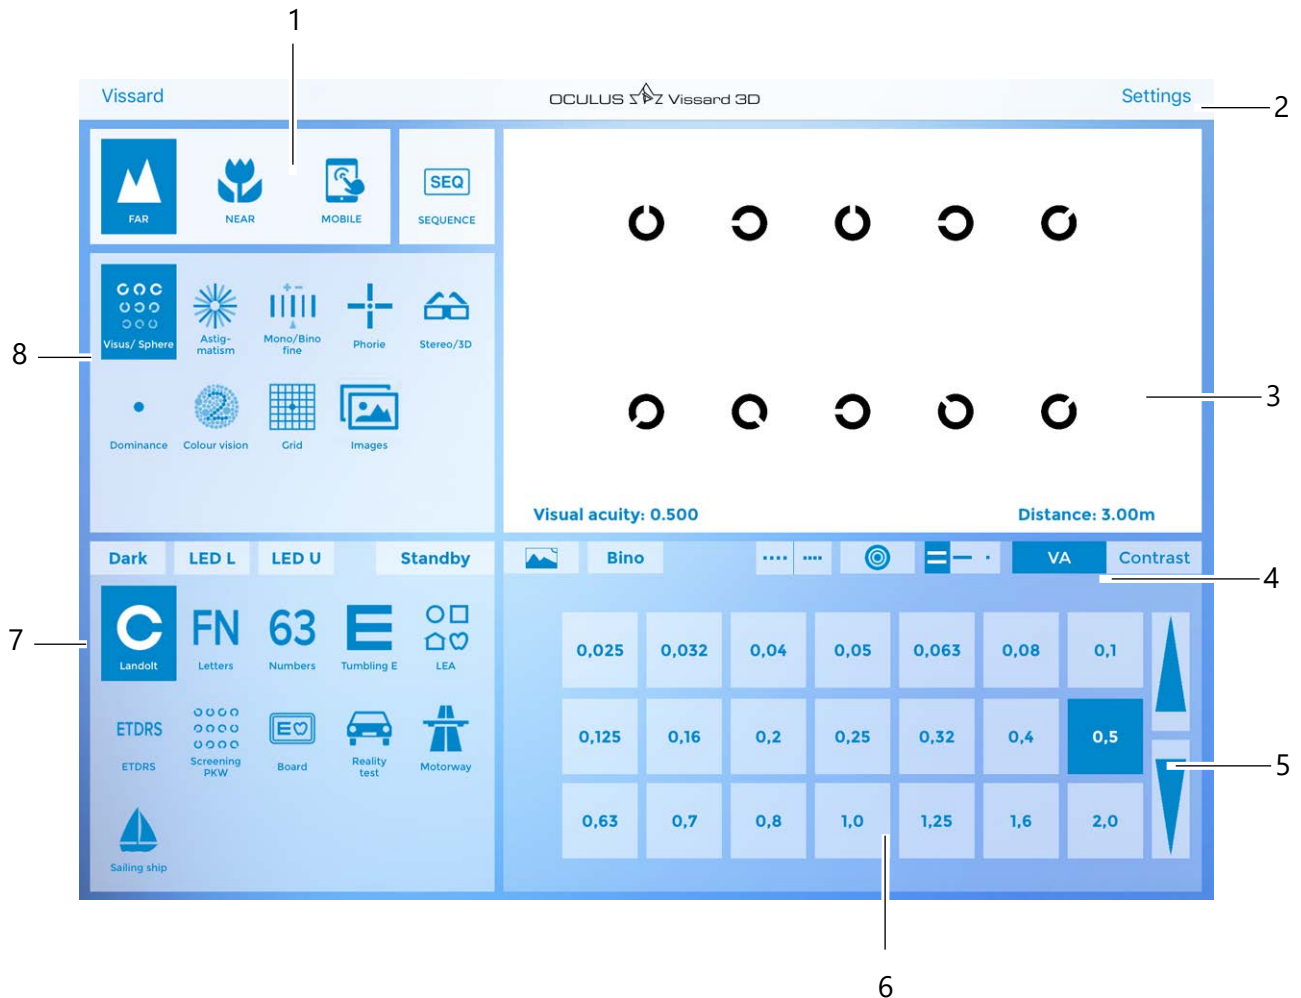

Fig. 8-2: Areas in the Vissard program; Example: Visual acuity test
- ➔ Tap on the [Settings] button, *fig. 8-2, page 29, item 2*. The following display appears.